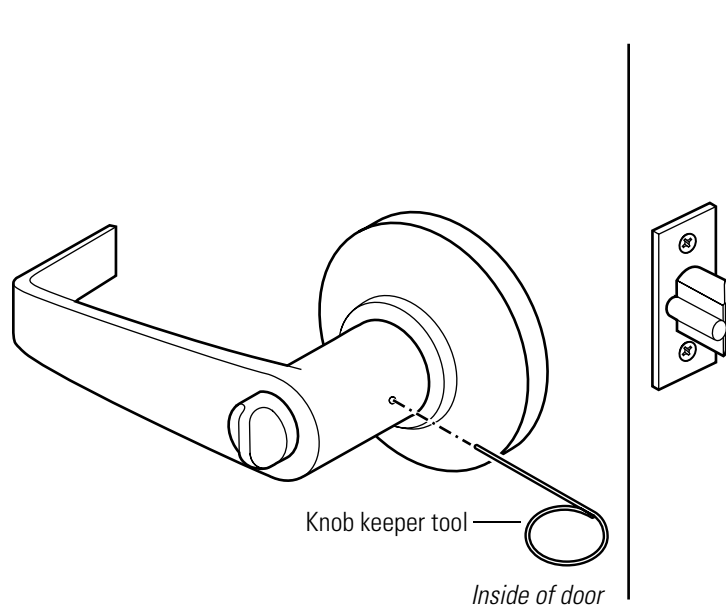

Figure 3.2 Removing the plain lever or button lever
1. Insert the knob keeper tool into the hole on the shaft of the lever, as shown in Figure 3.2.